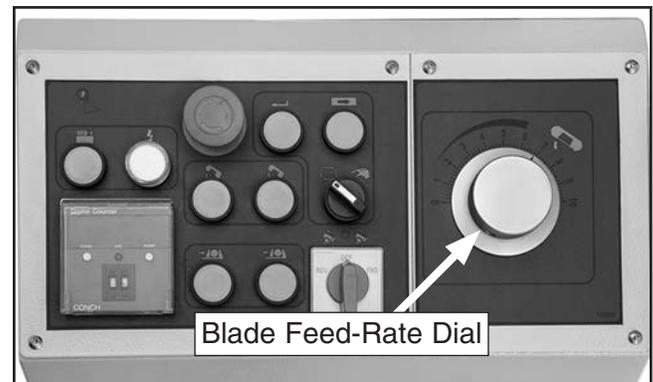

Figure 45. Feed rate dial.
3. Adjust blade feed-rate dial shown in **Figure 45** to desired feed rate from 0 (slowest) to 10 (fastest).